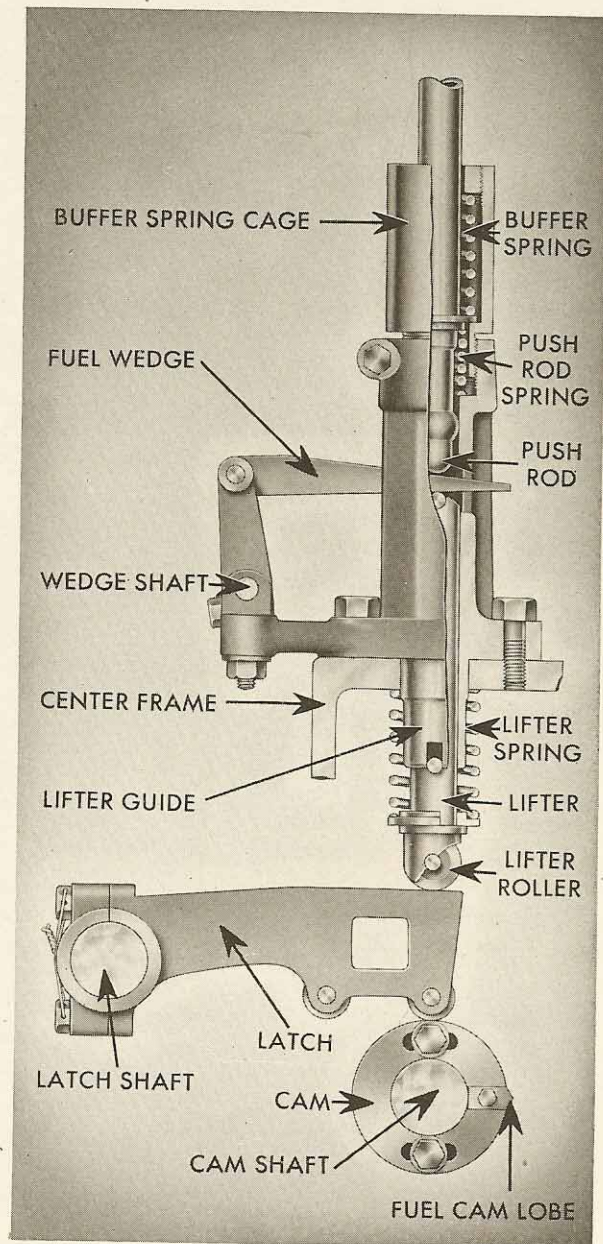

FIGURE 4-11
20. FUEL WEDGES: The spray-valve lifter is held down on the fuel cam by the lifter spring. The pushrod and rocker are held against the horseshoe collar and spray-valve stem nut by the pushrod spring shown in Figure 4-11. This leaves a gap between the lifter and the pushrod, and this gap is filled to greater or lesser degree by a fuel wedge. When the wedge is fully inserted the clearance between the lifter, wedge, and pushrod is very little, and the spray-valve stem is lifted by practically the full action of the fuel cam. As the wedge is withdrawn, however, the slack or clearance between lifter, wedge and pushrod becomes greater, so that part of the fuel-cam action is needed to take up this clearance, leaving only part of the cam action for opening the spray valve. The spray valve then opens later and closes earlier, injecting less fuel into the combustion chamber. Finally, the wedge can be withdrawn to a position in which the slack is so great that the cam cannot open the spray valve at all, and the fuel is completely cut off.
21. TIMING OF FUEL VALVE: The position of the cam lobe determines the timing of fuel injection, and if the fuel cam is turned on the camshaft so the cam comes around sooner or later, the timing of injection will be advanced or delayed, as we shall see in Section 10. We shall also see in Section 5 that the fuel cam really works against either one of two rollers, which support a plate called a latch shown in Figure 4-11, in order that the fuel-injection timing may remain the same no matter which way the engine rotates.